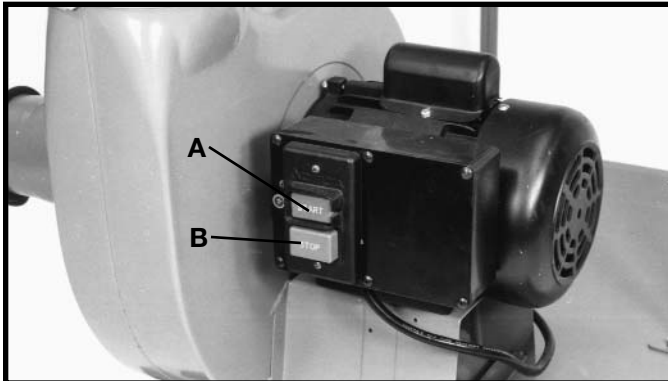

Fig. 28
The “on/off” switch is located on the side of the motor. To turn the dust collector “ON”, push the start button (A) Fig. 28. To turn the dust collector “OFF”, push stop button (B).